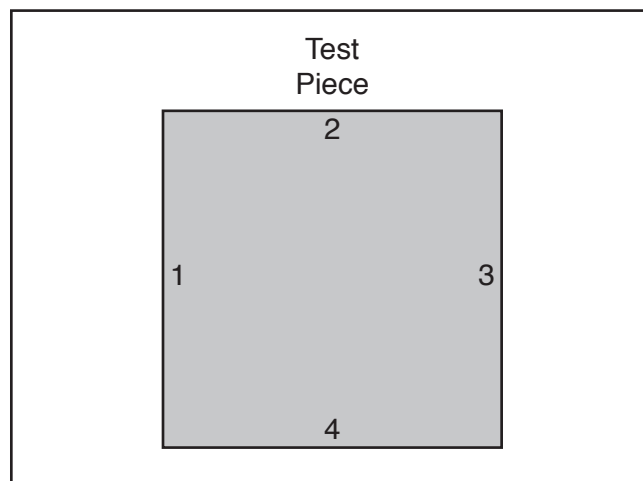

Figure 162. Fence adjustment test piece.
4. Prepare scrap test piece by cutting it to 32" x 32" square, then number all four sides 1–4 (see **Figure 162**).